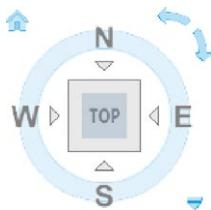

Fig. 16.15 Set screen to **ViewCube/Top** view
1. Place the screen in the **ViewCube/Top** view (Fig. 16.15).